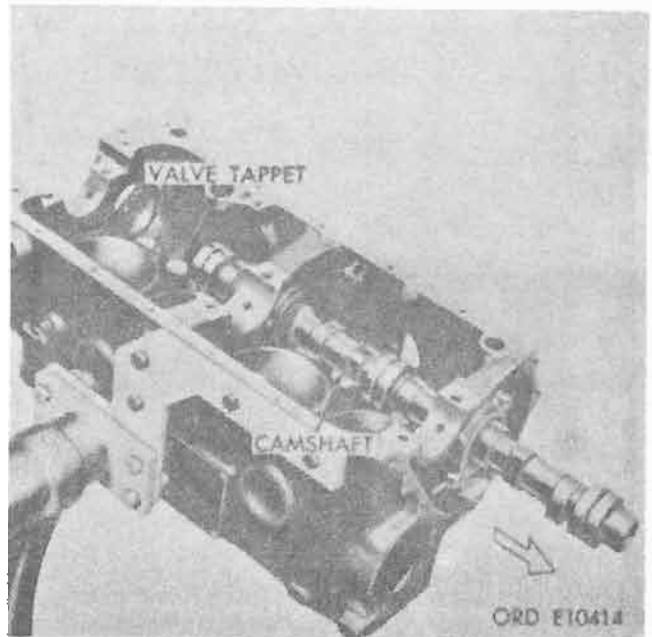

Figure 4-119. Camshaft removal.
c. *Camshaft.* Turn cylinder block over on engine stand to prevent tappets from dropping out when camshaft is being removed. Carefully remove camshaft by pulling it toward front of engine (fig. 4-119).
d. *Tappets.* Remove eight tappets, keeping in order so they can be installed in their original positions (fig. 4-119).